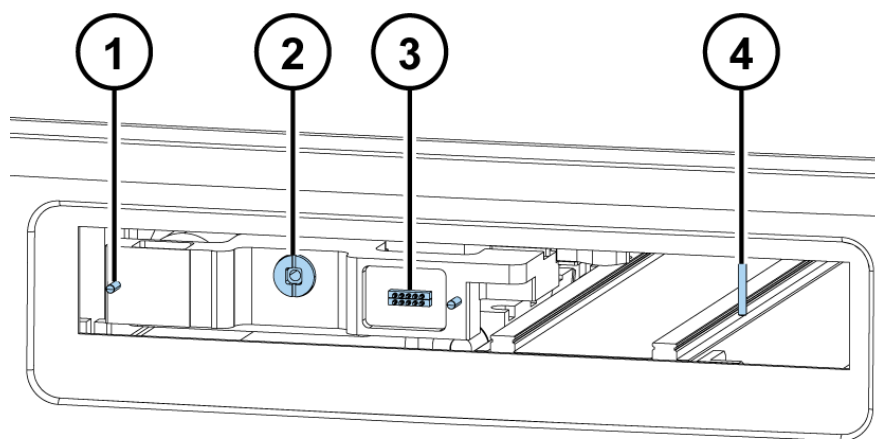

Figure 3-24 Tray holder
1. Gently pull the tray holder out and slide it to the left (Figure 3-24).